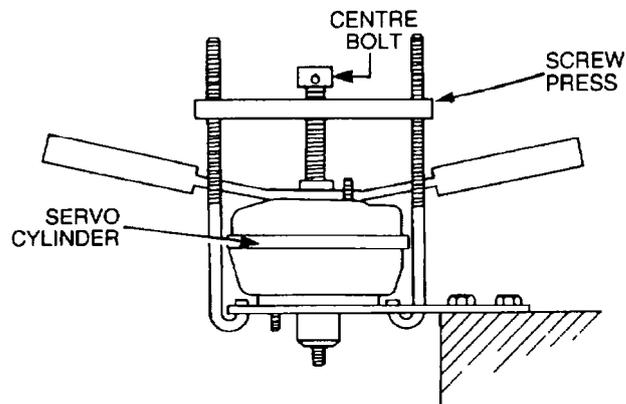

Figure 268 Servo Vacuum Chamber Disassembly
- f.** Place the vacuum chamber in a screw press, or equivalent, with the rear cover studs in the holes in the base of the tool. Place the bar wrench and adapter over the studs in the front cover (Figure 268).